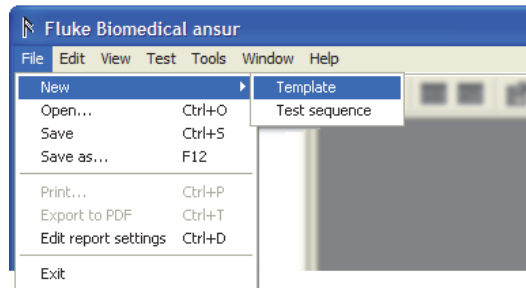

Figure 3-23. Creating a New Template
1. Click **File | New | Template** as shown in Figure 3-23 or click the **New Template** icon (🏠) on the main toolbar.